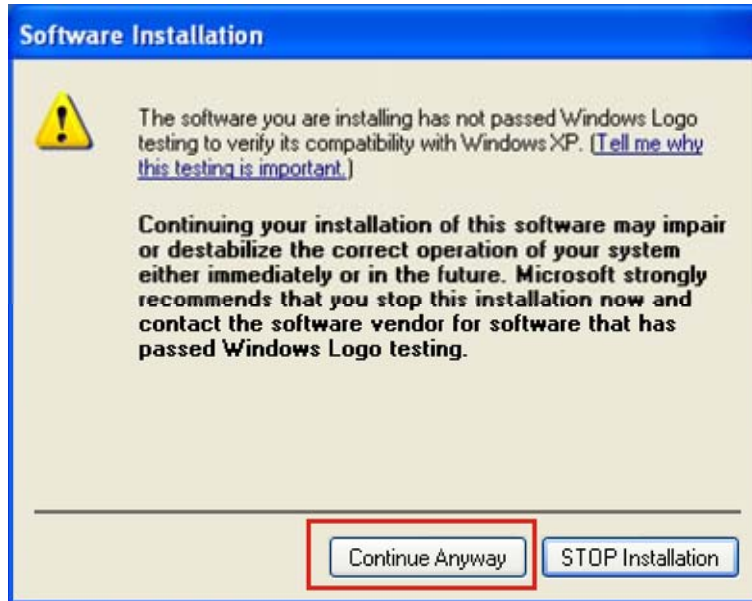

Figure 7-23: AC'97 Driver Installation Verification
Step 52: The Verification window in **Figure 7-23** may appear.